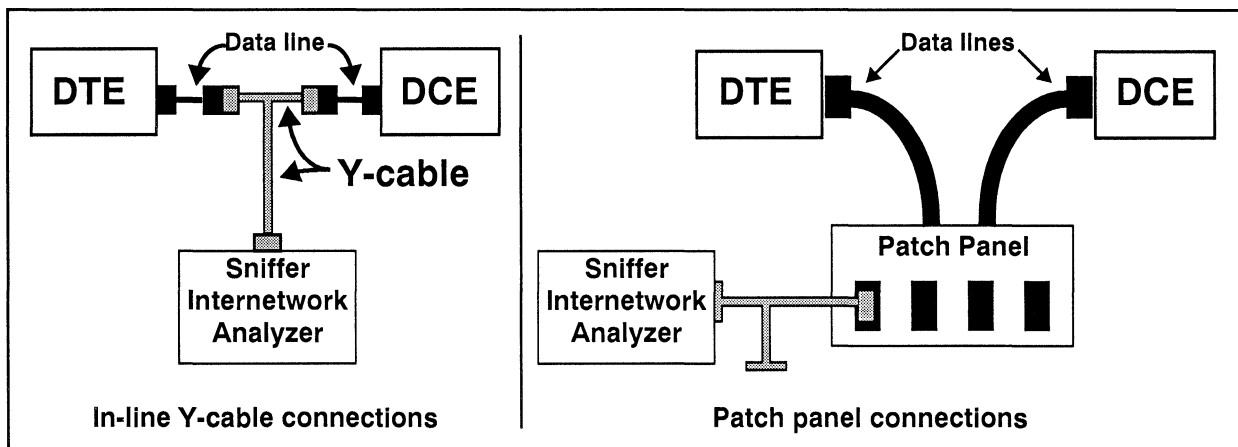

Figure 4-17. Two ways to connect the analyzer to the network.
Connections between the analyzer and the network are made with one of the “Y” cables included with the Sniffer Internetwork Analyzer. Each Y-cable provides one female and two male connectors. The Y-cables provide two ways to connect the analyzer to the network: they can be used in-line with your data transmission line, or they can be used with a patch matrix panel. When making an in-line connection, all three connectors are used. When connecting the Internetwork analyzer to a patch matrix, one connector is left unused. Figure 4-17 illustrates this concept.
1. Connect the RS-232 adapter cable to the network at a patch panel or monitor port, or connect the adapter cable in-line with the data line by disconnecting the data line and inserting the adapter cable. Plug one of the adapter cable connectors into the DTE side of the line and the other one into the DCE side. Figure 4-17 on page 4-18 illustrates this concept.
1. Connect the RS-422 / RS-423 adapter cable to the network at a patch panel or monitor port, or connect the adapter cable in-line with the data line by disconnecting the data line and plugging one of the DB-37 adapter cable connectors into the DTE side of the line and the other one into the DCE side. Figure 4-17 on page 4-18 illustrates this concept.